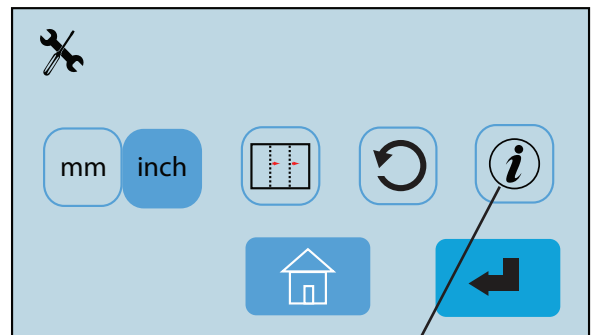
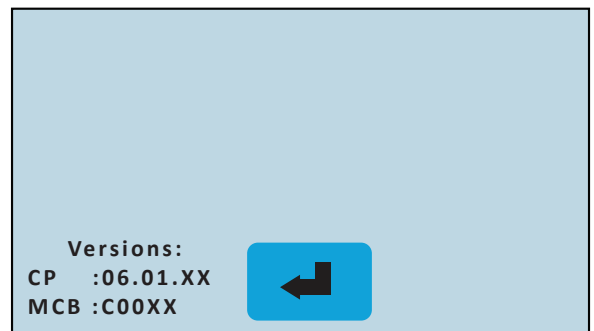

Fig. 32a Software Information Icon
Fig. 32b
1. Press the Software Information Icon (Fig. 32a) to verify the current software revision. The software version information will be displayed (Fig. 32b). To return to the previous screen, press the  icon.